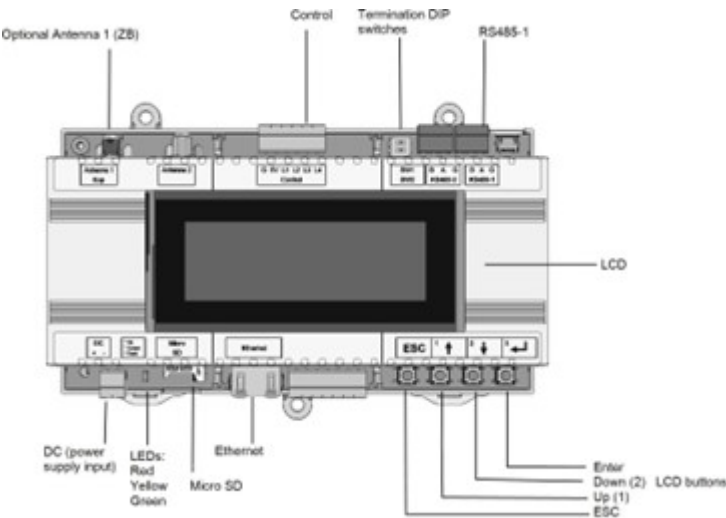

Figure 3: Firefighter gateway interfaces
1. Connect the power supply cable connector to the connector labeled DC on the Firefighter Gateway (see Figure 3).
2. Connect the power supply to the AC mains. The LEDs are lit momentarily to indicate power connection (see Figure 3).